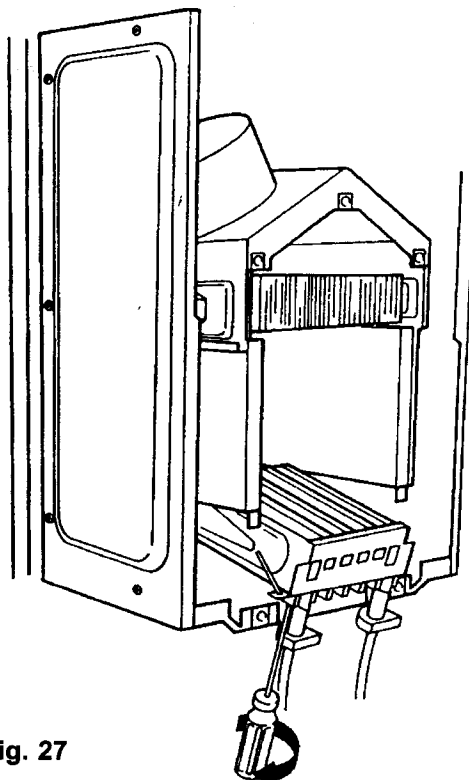

Fig. 27
- 8.6.5 Release electrode retaining screws and carefully remove electrodes (Fig. 27).